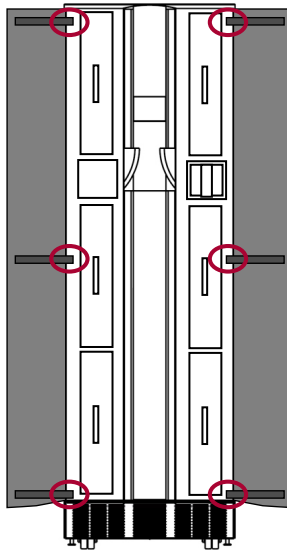

Figure 2-7: Detaching the Doors
1. Remove the left front door (Figure 2-7) by unscrewing the three Phillips screws holding the hinges to the frame.